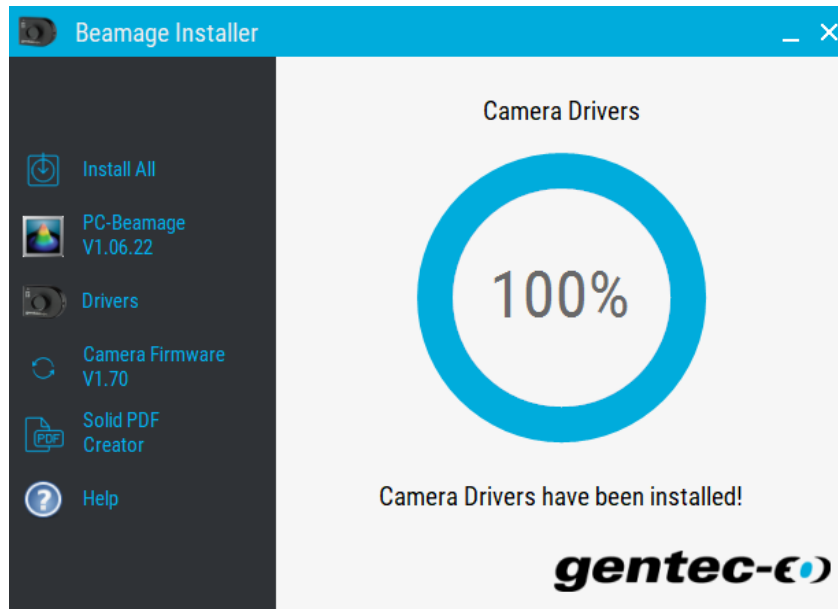

Figure D-3 Camera Drivers
- 3) Download and run the *Beamage Installer*. The latest version can be downloaded from the following web page: <https://www.gentec-eo.com/resources/download-center> .See Figure D-3.
- 4) Click on the “Drivers” button and wait the driver installation done, see **Figure D-3**